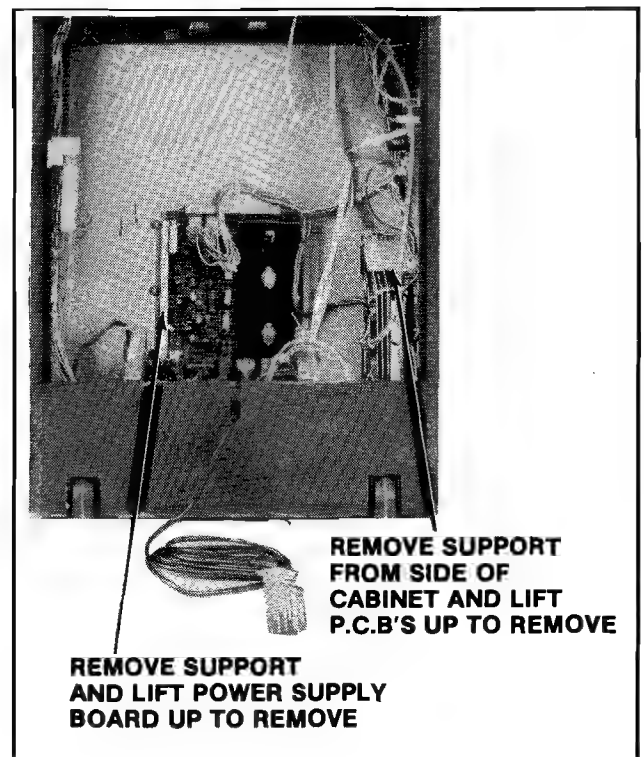

Figure 3-5 Removing the P.C.B.'s
- ☐ Disconnect the linear power supply board from all its cabling, remove the P.C.B. support(s) indicated in Figure 3-5, and slide the linear power supply board out the back of the cabinet.